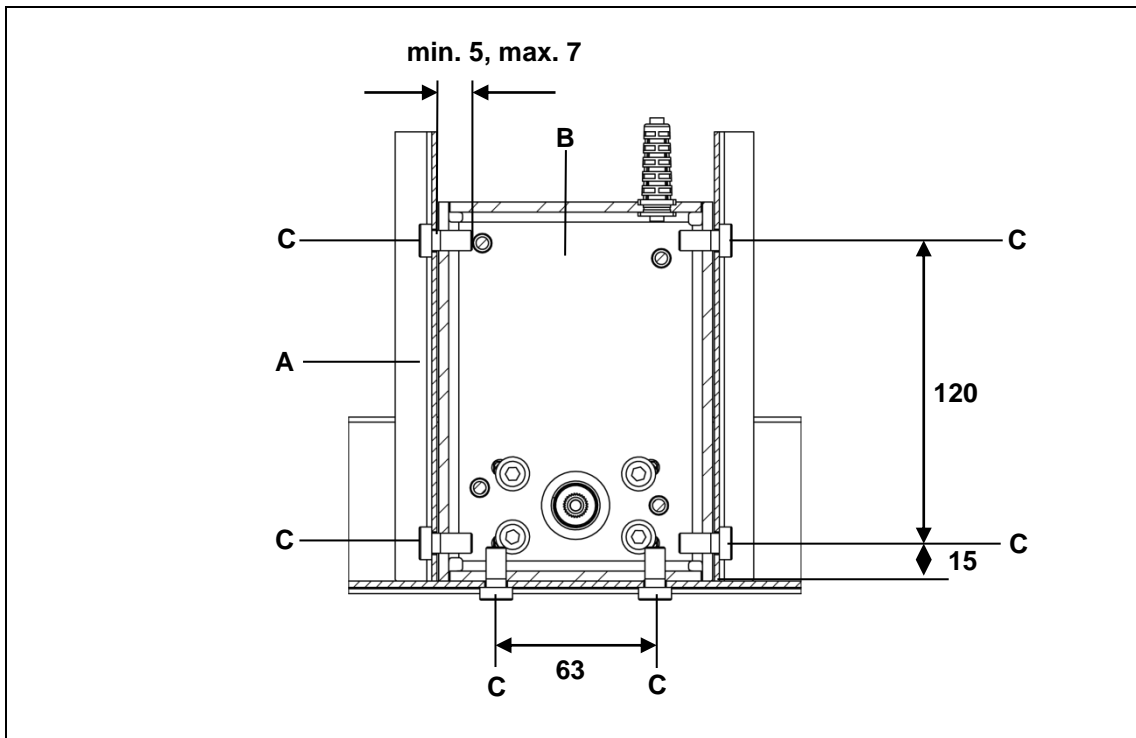
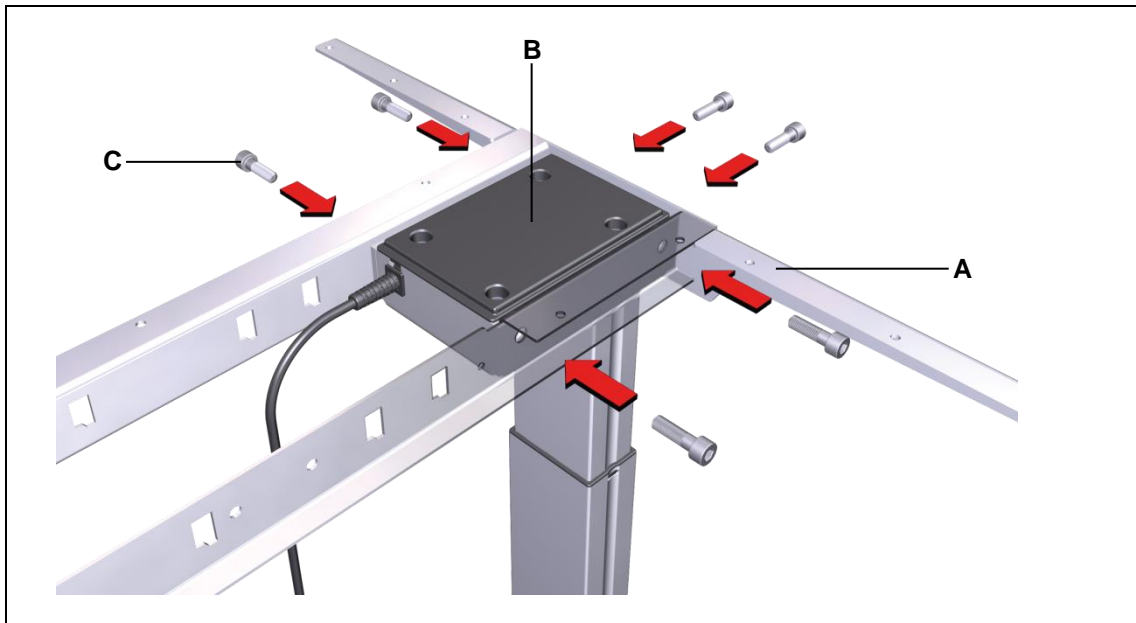

Figure 9 Mounting the desk frame (dimensions in mm)
Figure 10 Mounting desk frame
- ▶ Use M8 screws (grade 8.8), as shown in Figure 9. The tightening torque must not exceed 20 Nm.
- 1 Set the desk frame so that the holes are over the lifting column. Use six screws to attach the desk frame to the motor housing of the lifting column, as shown in Figure 10 (tightening torque is 20 Nm). The mounting dimensions are shown in Figure 9.